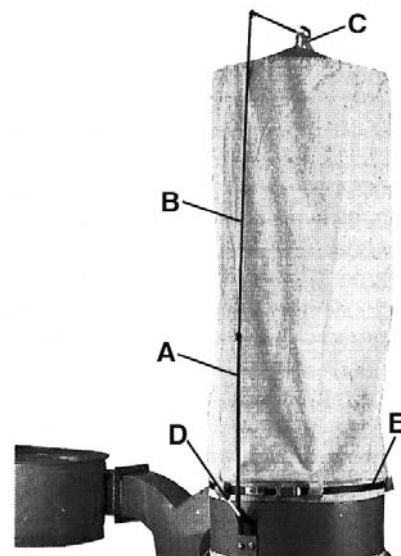

FIGURE 10
8. Thread a lower hanger (A) Fig.10 into an upper hanger (B). Attach upper hanger hook to the loop found on the top of the filter bag (C). Place the hanger into the the hanger bracket (D). Slide a retainer strap (E) through the keepers of the filter bag and attach to the upper lip of the housing. Repeat this step for the other filter bag.